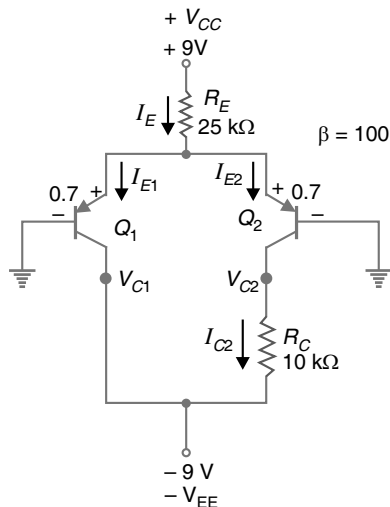

Fig. 23.99
5. Find the bias voltages and currents for the differential amplifier circuit shown in Fig. 23.99.